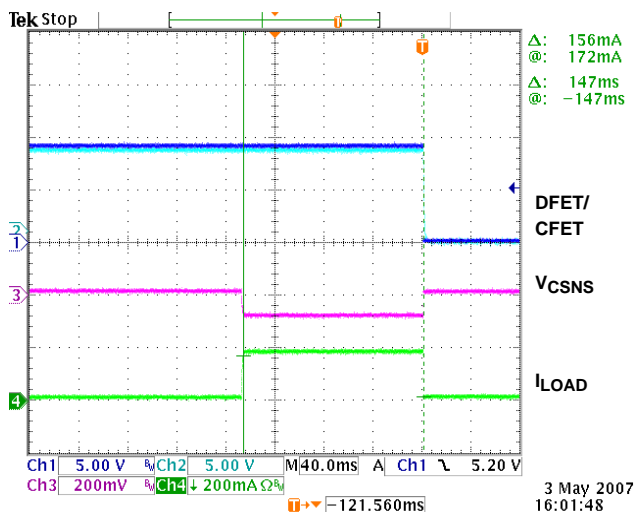

FIGURE 10. CHARGE OVERCURRENT TEST (0.1V THRESHOLD, 160ms TIME DELAY, 0.5Ω SENSE RESISTOR)
- Turn the charge emulation power supply output on. This causes the ISL9208 to detect an overcurrent condition, which turns the FETs off. Figure 10 shows a charge